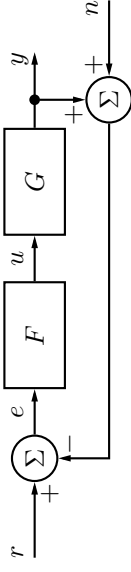

Figure 3.28a
3.28 Figure 3.28a shows a block diagram of a control system. Determine the transfer function
3.29 Consider again the control system in Figure 3.28a, with  $n = 0$  and